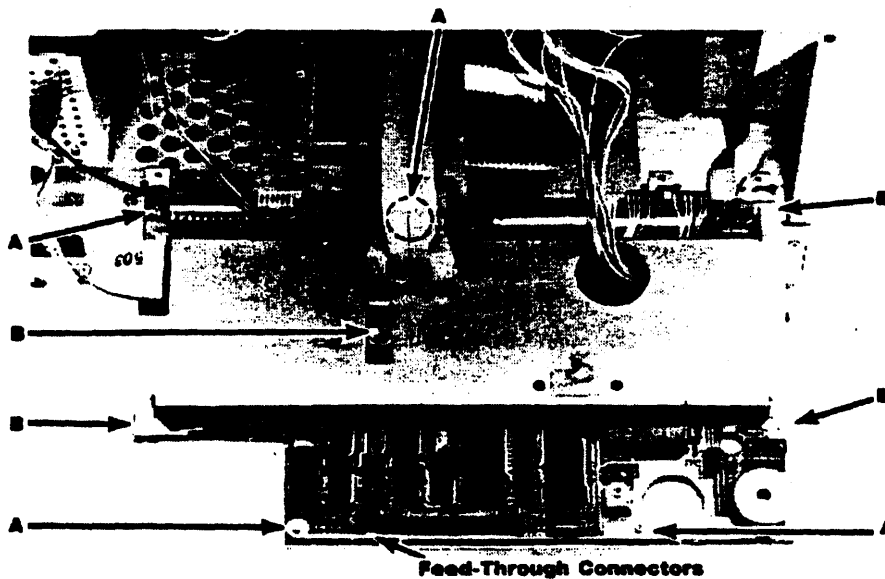

Figure 6-7. Logic B PCA Screws and Feed-Through Connectors.
7. Remove the four shield screws (labeled "B" in figure 6-7). Lift up the shield and disconnect the display flex cable from the logic B PCA.
10. Remove the four remaining screws that hold the logic B PCA (labeled "A" in figure 6-7).
Reassembly Notes: Make sure the plastic insulator sheet is positioned properly relative to the screw holes in the PCA mounting panel. Insert the feed-through connectors into the logic A PCA, align the logic B PCA over the pins, then press the PCA into place. *Press as close to the connectors as possible.* Secure the PCA with its mounting screws (labeled "A" in figure 6-7) before you reconnect any cables.
8. Remove the four screws that hold the logic B shield (labeled "B" in figure 6-7). Lift up the shield and disconnect the display flex cable from the logic B PCA and display assembly.